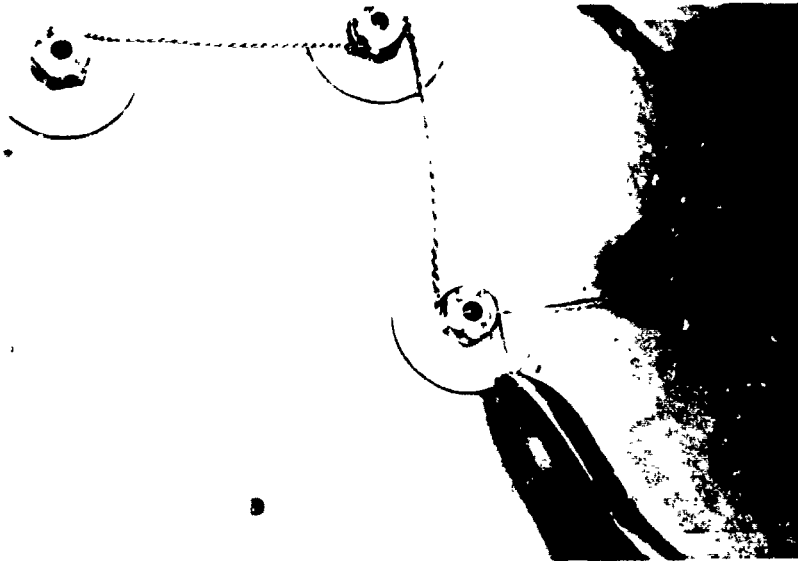

Figure 19. Wire goes Around Bolt head in Clockwise Direction.
17. While keeping tension on the wire extending through the bolt head, pull the other wire around the bolt in a clockwise direction. Pass this wire UNDER the wire which extends through the bolt head. See figure 19 below.